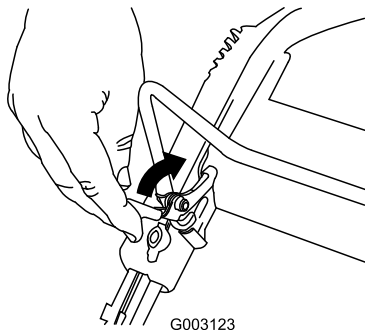

Figure 16
1. Pull the control bar lock back (Figure 16).